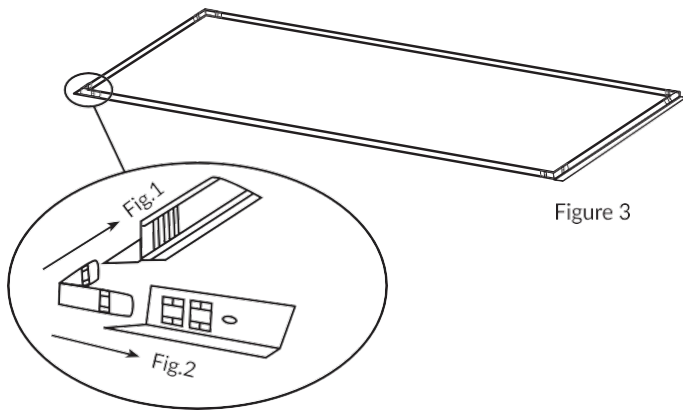

Figure 3
- Repeat 1 & 2 for other 3 corners.(Figure 3)